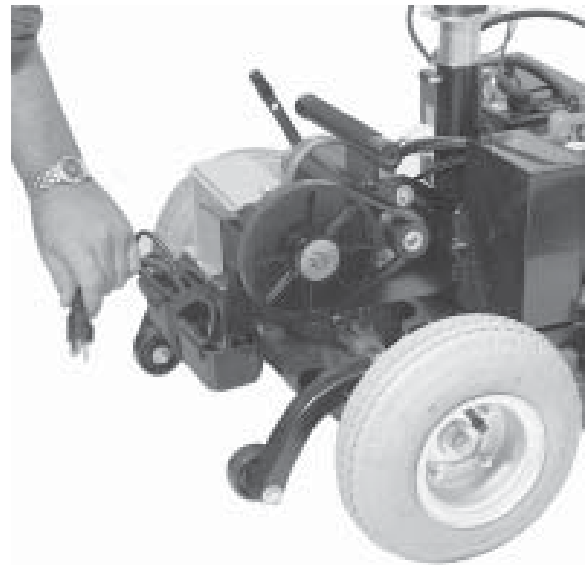

FIGURE 9. CHARGER POWER CORD
4. Extend the charger power cord and plug it into the wall outlet. See figure 9.